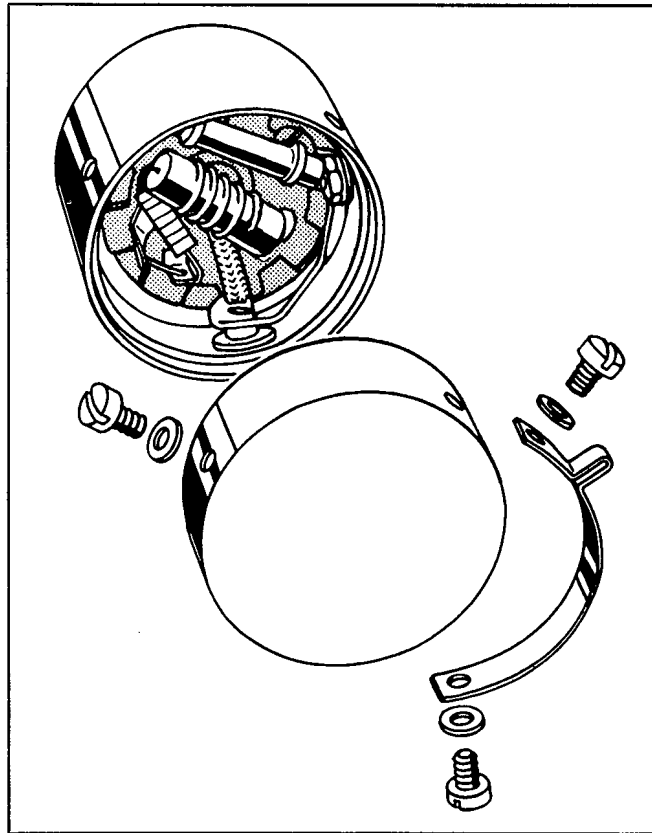

Figure 7-32. Disassembly of Lighthouse Tube Sockets in Monitor Receiver
(1) Fig. 7-32 shows the disassembly of the light house tube sockets to permit the testing and replacement of parts in the socket. The socket should be reassembled with the parts in the same relative positions shown in the figure.